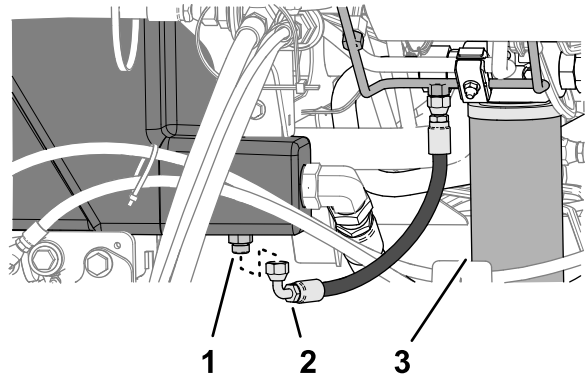

Figure 115
2. Place a large drain pan under the straight fitting (Figure 115) of the hydraulic tank; refer to Hydraulic Fluid Capacity \(page 64\).